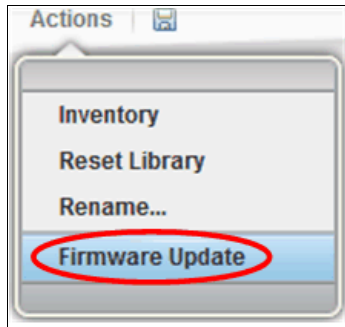

Figure 4-140 Firmware Update
1. From the System page of the TS4500 management GUI, select **Actions** → **Firmware Update**, as shown in Figure 4-140.